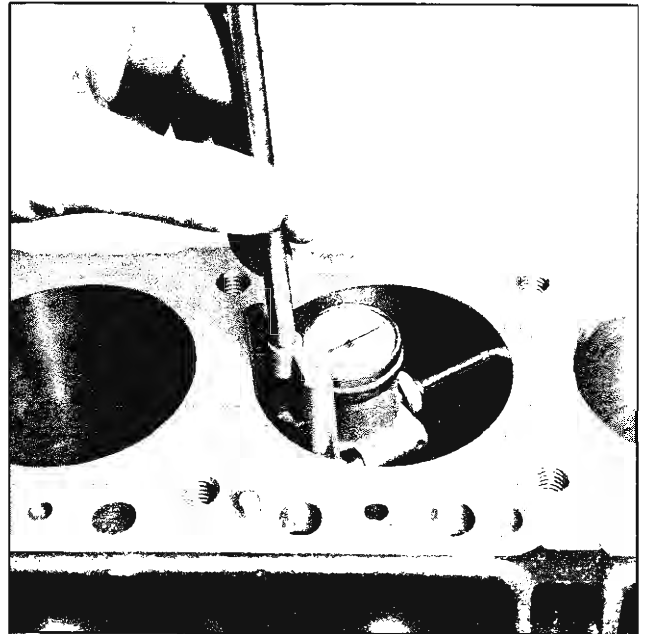

Fig. 60—Checking Cylinder Out-of-Round and Taper
2. Check the cylinder walls for taper, out-of-round or excessive ridge at top of ring travel. This should be done with a dial indicator (fig. 60). Set the gauge so that the thrust pin must be forced in about $\frac{1}{4}$ " to enter gauge in cylinder bore. Center gauge in cylinder and turn dial to "0." Carefully work gauge up and down cylinder to determine taper and turn it to different points around cylin-